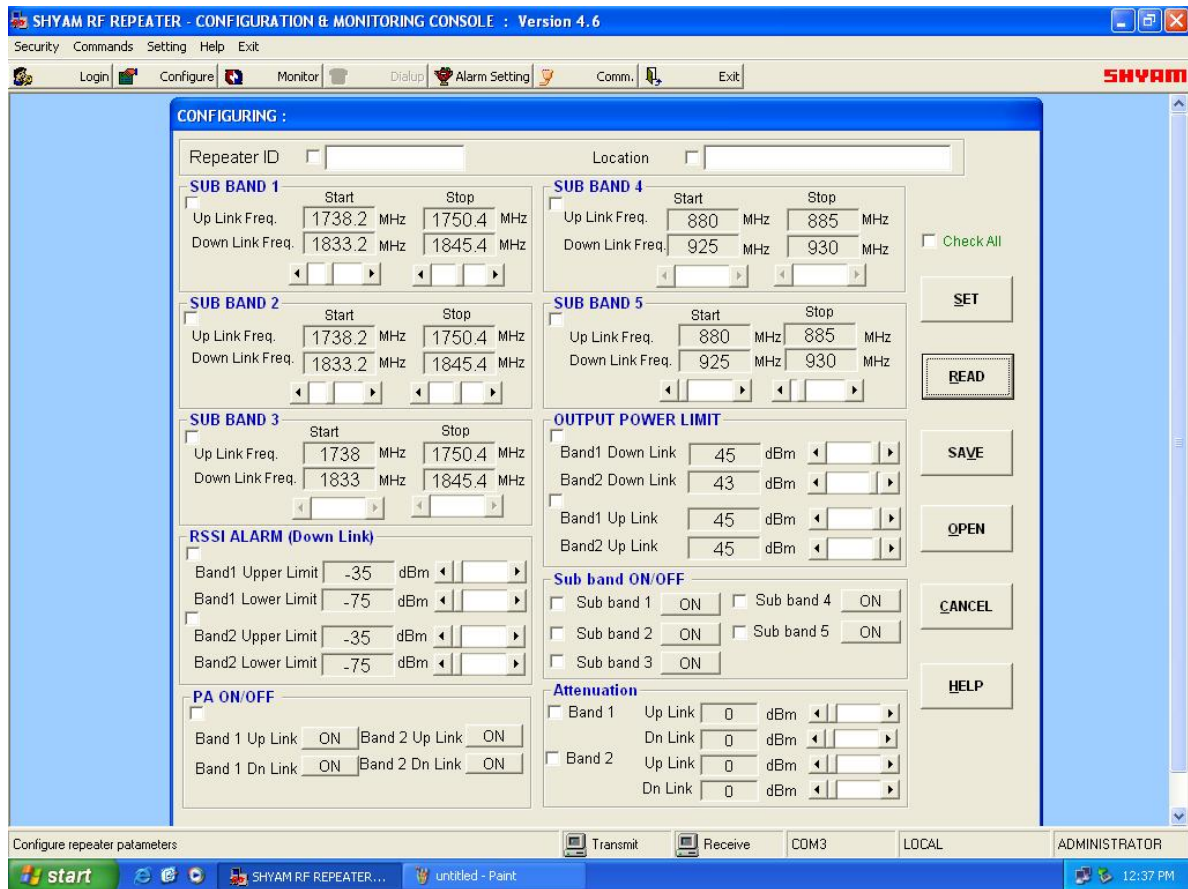

Figure 4: Configuration window
- Repeater ID:** User can assign a unique repeater ID to each repeater installed. Up to 10 characters are allowed in this field. **(Figure 4)**
- Repeater Location:** User can assign the address of location where repeater is installed. Up to 30 characters are allowed in this field. **(Figure 4)**
- Sub Bands (UL/DL Frequency Bands) Settings:** The frequency bandwidths of all the five sub bands or loaded sub bands in UL & DL are defined. **(Refer Figure 4)**
- d. **Thresholds Output Power:** Maximum Output Power limit in UL & DL for both the bands are set. A “**PA Power high**” alarm will be generated when PA power exceeds the upper limit. (Refer Figure 4)
- e. **Thresholds RSSI Limits:** Lower and Upper RSSI Limits in DL & UL paths for both the bands are set. A RSSI High alarm will be generated when RSSI exceeds the set upper limit, and a RSSI Low alarm will be generated when RSSI goes below the set lower limit set. Upper range that can be set varies from -35 to -55dBm. Lower range that can be set varies from -75 to -95dBm. (Refer Figure 4)
- g. **PA ON/OFF:** User can set uplink and/or downlink PA as ON or OFF independently for testing/maintenance purpose at the time of installation for both the bands. (Please refer to Figure 4)